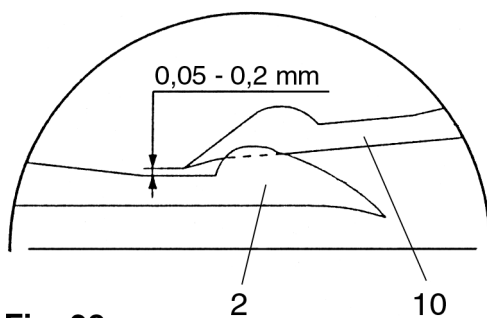

Fig. 28
When the two loopers overlap (fig. 28), the clearance between the point of the upper looper 10 and the back of the lower looper 2 must be between 0.05 and 0.2 mm.
- Pull the upper looper 10 forward until the clearance between the point of the upper looper and the back of the lower looper is between 0.05 and 0.2 mm (fig. 28).